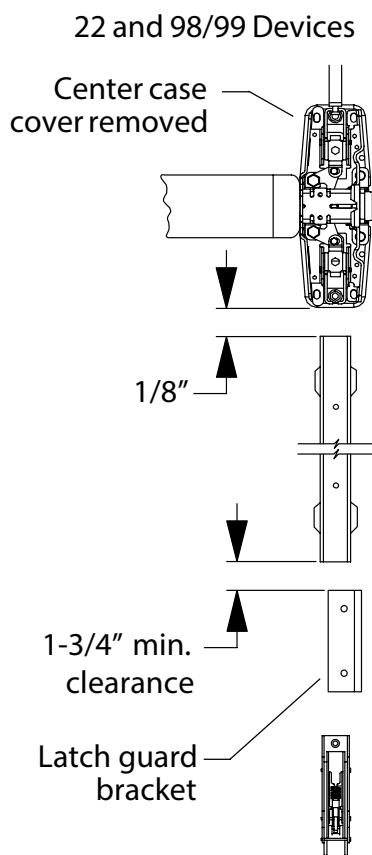
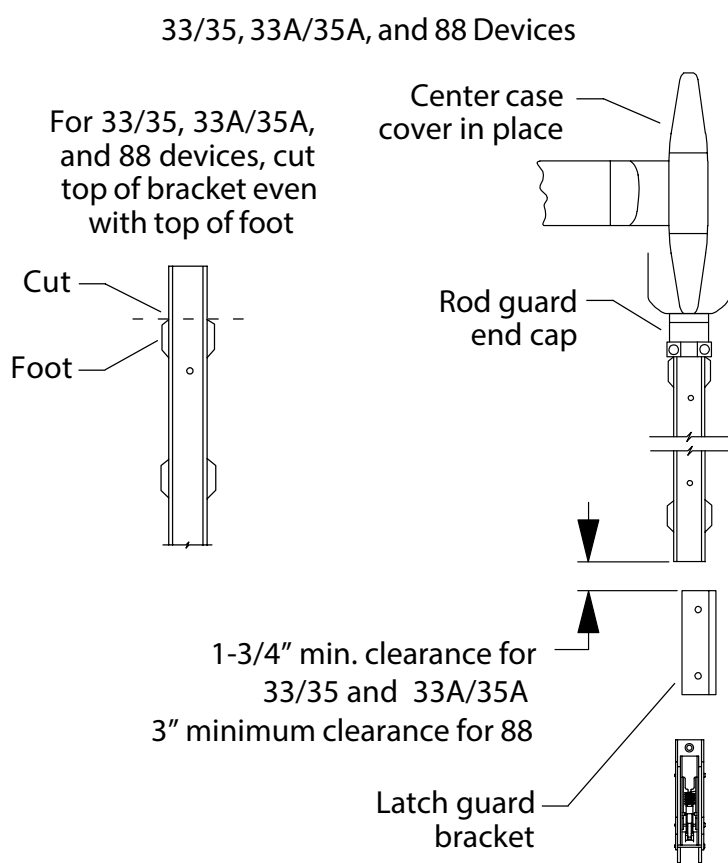

Figure 4
Figure 5
- 4 Cut rod guard bracket to clearances shown (Figure 4 or Figure 5).